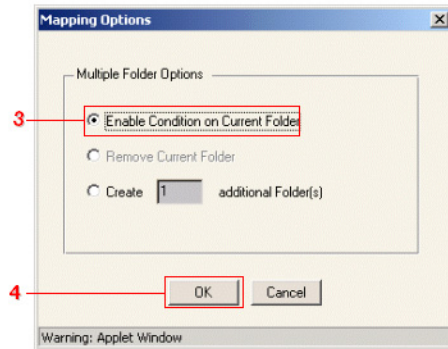

Figure 22-6. Use the Mapping Options dialog to add a condition to your target's folder.
- ③ The Mapping Options dialog appears. Since you want to add a condition, select the first radio button (see Figure 22-6 below).
- ④ Click **OK** to dismiss the dialog and continue.